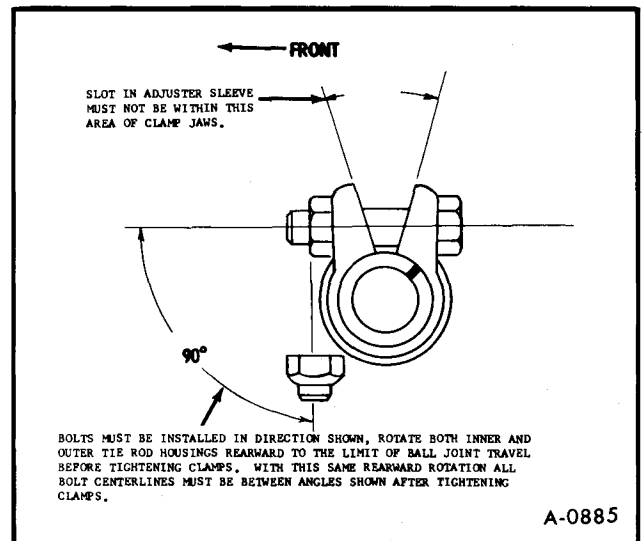

Figure 32—Positioning Tie Rod Clamp
Toe-In Adjustment (Figure 32)
3. When adjustment has been completed according to the recommended specifications, check to see that the number of threads showing on each end of sleeve are equal and that the tie rod end housings are at right angles to steering arm. Position inner and outer tie rod clamps as shown in Figure 32. Torque nuts to 20 ft. lbs.